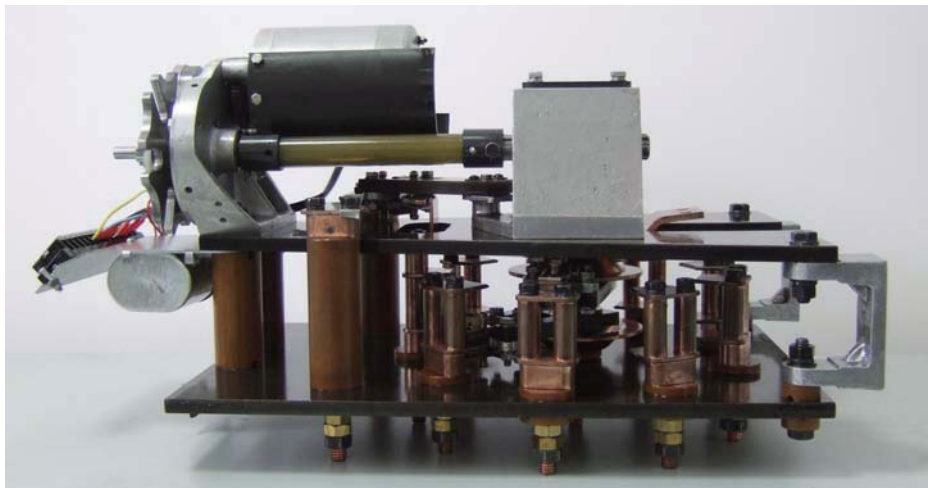
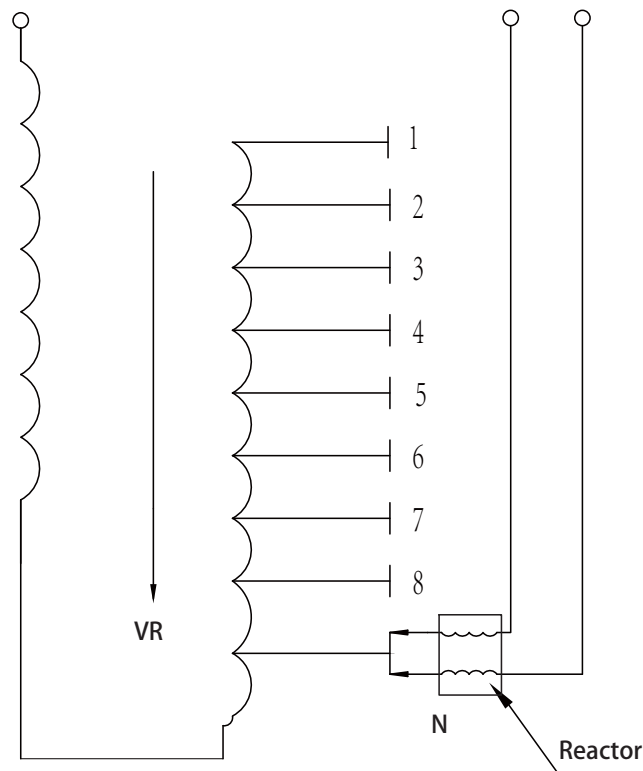

Fig. 1 Outline view of OLTC
Fig. 4 Operating position table and connection diagram without change-over selector
The outline of OLTC is shown in fig.1 and 2, the principle of voltage regulation in fig.3: operating position (at set position) table in fig. 4 and 5, and basic connection diagram in fig. 6. This operating instruction contains the specification on how to use and install the OLTC.
- 3.6 The parts and aluminum bracket mentioned above are installed on the upper and lower insulating panels, there is a bolting hole to connect the oil tank of the voltage regulator on the aluminum bracket. For details see figure 1 and 2.